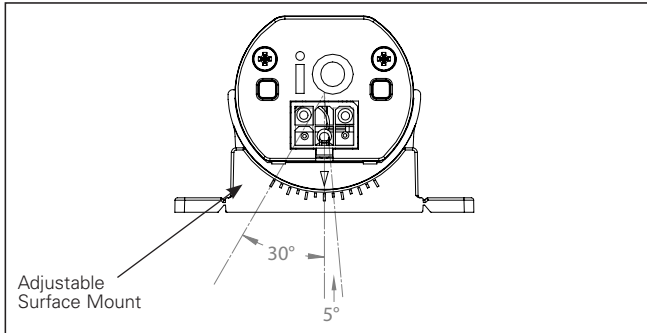

Figure 5
- Fixtures can be rotated in the adjustable mount up to 30 deg in either direction to aim light distribution if desired. (see Figure 5). Marks on the adjustable mount should be used to ensure consistent aiming along the run.